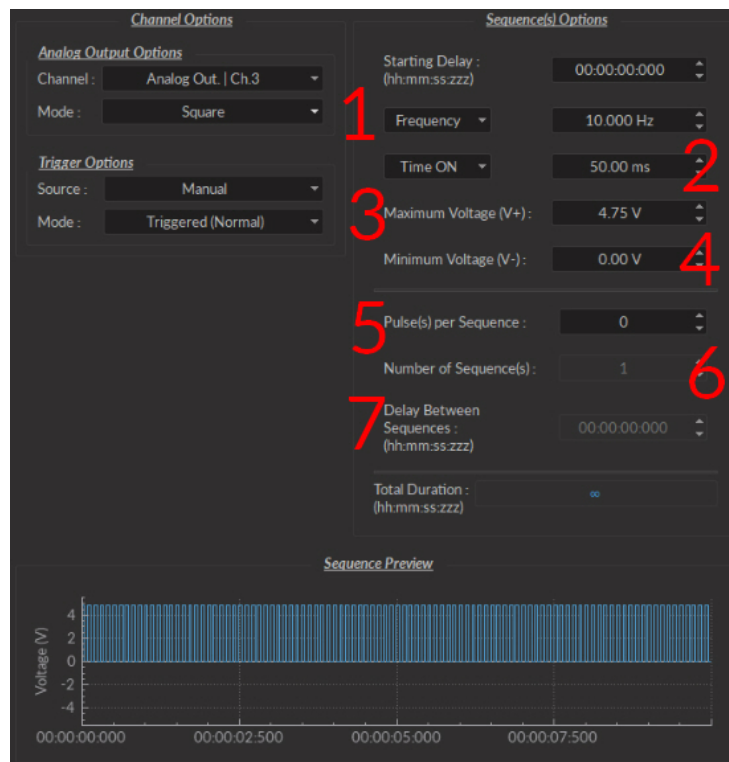

Figure 3.6: Channel(s) configuration window, Analog Output Square
- The **Square** channel mode (Fig. 3.6) creates a sequence of pulses with the minimum of the pulses at **V-** and the maximum of each pulse at **V+**. This includes all sequence options as the **CW** mode, with the following additions.
1. The **Frequency** (Fig. 3.6) sets the frequency (in Hz), which is the number of pulses per second. The frequency can also be changed to the **Period**. For example, a signal at 10 Hz (frequency) will output one pulse every 100 ms (period), whereas a signal at 0.5 Hz (frequency) will output one pulse every 2 seconds (period).
2. The **Time ON** (Fig. 3.6) defines the length of a single pulse. This time can also be converted to a **Duty Cycle**, which indicates the % of the period the pulse duration corresponds to.
3. The **Maximum Voltage (V+)** (Fig. 3.6) defines the maximum voltage of each pulse, in volts. The signal cannot go beyond +4.75 V.
4. The **Minimum Voltage (V-)** (Fig. 3.6) defines the minimum voltage of each pulse, in volts. The signal cannot go beyond -4.75 V.
5. The **Pulse(s) per sequence** (Fig. 3.6) set the number of pulses per sequence. If it is set to 0, the number of pulses will be infinite.
6. The **Number of sequence(s)**(Fig. 3.6) sets the number of times that the sequence will be repeated.
7. The **Delay between sequences** (Fig. 3.6) sets the delay between each sequence.